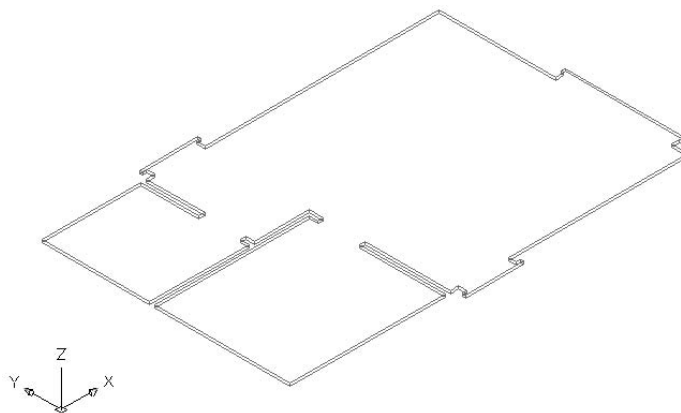

FIGURE A.14: The 12 boxes unite to form a new floor solid object.
6. Turn off the Walls and Steps layers. Choose Modify > Solids Editing > Union, and then use a selection window to select all the boxes. Press \downarrow . The 12 boxes unite to form a 2"-thick floor solid (see Figure A.14).